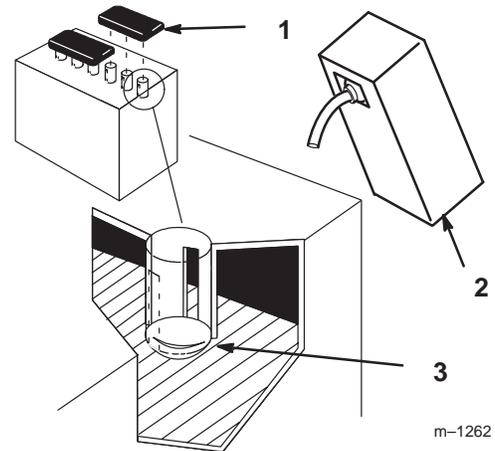

Figure 5
7. Remove filler caps from the battery. Slowly pour electrolyte into each cell until the electrolyte level is up to the lower part of the tube (Fig. 5).
10. Slowly pour electrolyte into each cell until the level is once again up to the "UPPER" line on the battery case (Fig. 5) and install covers.